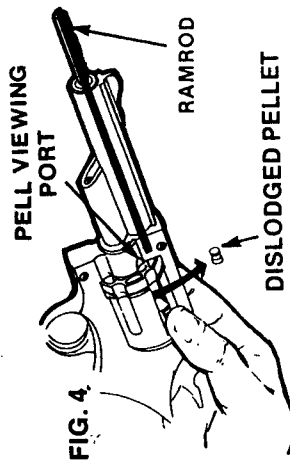

FIG. 4
- Point muzzle up in **SAFE DIRECTION** and hold Pel Loader back. Revolve the Cylinder to align each chamber with the Loading Port, and firmly tap the Revolver to eject the pellets from each Chamber. (Fig. 4)